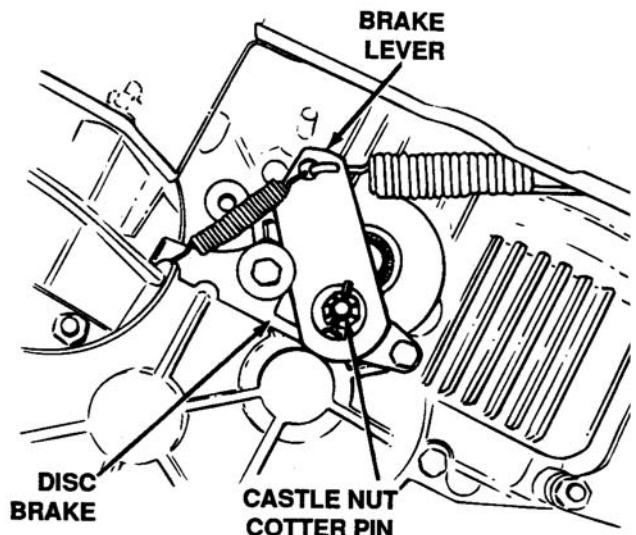

Figure 4-65. Brake Adjustment
The hydrostatic control lever is located on top of the fender on the left side of the tractor. This single control lever, connected to the hydrostatic transmission, controls both the speed and direction of the tractor. Infinite speed control is achieved by moving the control lever forward or backward. The farther forward or backward you move the control lever, the faster you will travel. Pulling the control lever into neutral (N) area will stop the tractor. To increase rear wheel torque (pulling power), move the control lever towards neutral (N) position. The lawn tractor responds similar to shifting to a lower gear with a gear type transmission. See Figure 4-65.
Brake Adjustment (See Figure 4-65). The brake is located by the right rear wheel inside the frame. During normal operation of this machine, the brakes are subject to wear and will require periodic examination and adjustment.